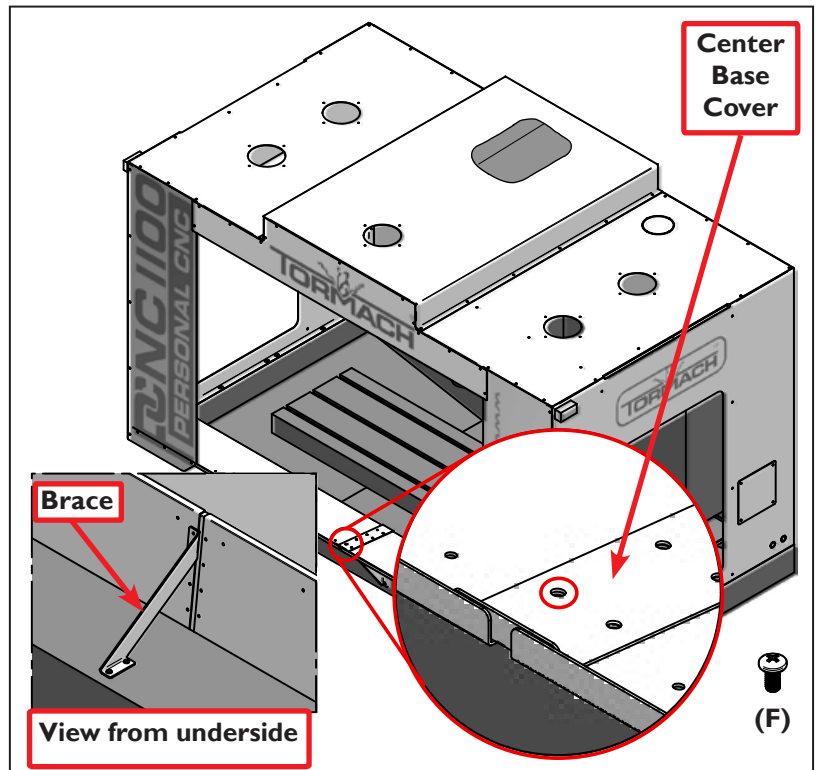

Figure 19
50. Place the Center Base Cover (E.33) over the left and right door bases (see **Figure 19**). Loosely fasten with (F) screws along the edges of the panel.
51. Thread (F) screw through the Center Base Cover (E.33), through the left door base and into the flange of the Pan Brace at the screw location (see **Figure 19**). Once all screws are in and started, tighten securely.
52. The Pan Brace has two holes where the brace meets the chip pan (see **Figure 19**). These holes are provided so you can drill and tap the chip pan using a .159" diameter drill bit and a 10-32 tap. Once the holes are drilled and tapped, fasten with (F) screws.